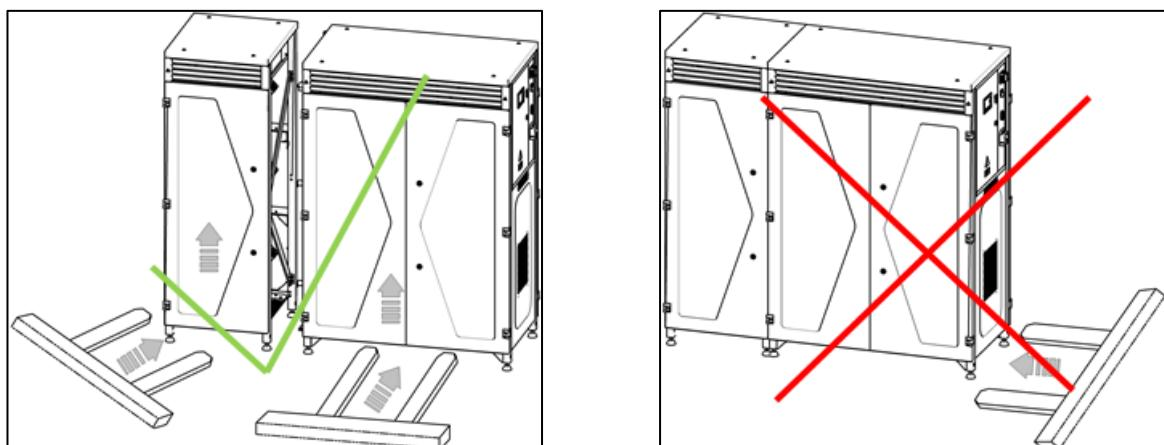

Fig. 4 : Handling the compressor module
- Position the compressor module at the site of installation. (Fig. 4 A)